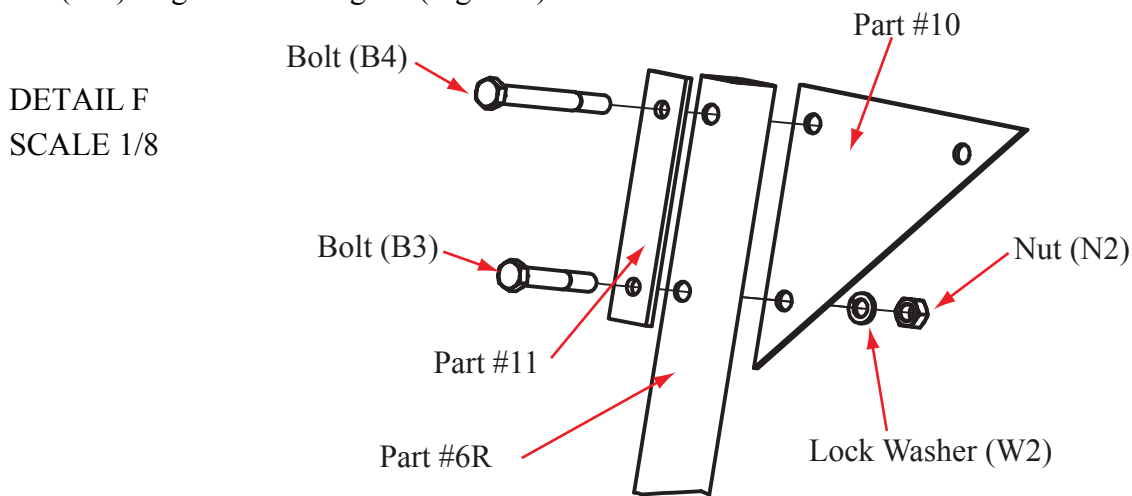

Figure 8
**Step 15.** Install the corner plate (#10) by aligning the bottom and corner holes of the corner plate with the top two holes on the right vertical tube (#6R). Insert bolt (B3) through the top vertical tube backing plate (#11), then through the lower holes in the right vertical tube (#6R) and the bottom hole of the corner plate. Place lock washer (W2) and nut (N2) onto bolt (B3) and secure a snug fit. (Figure 8)
**Step 16.** Insert bolt (B4) through the top hole of the top vertical tube backing plate (#11), the top holes of vertical tube (#6R), and the corner hole of the corner plate. (Figure 8)